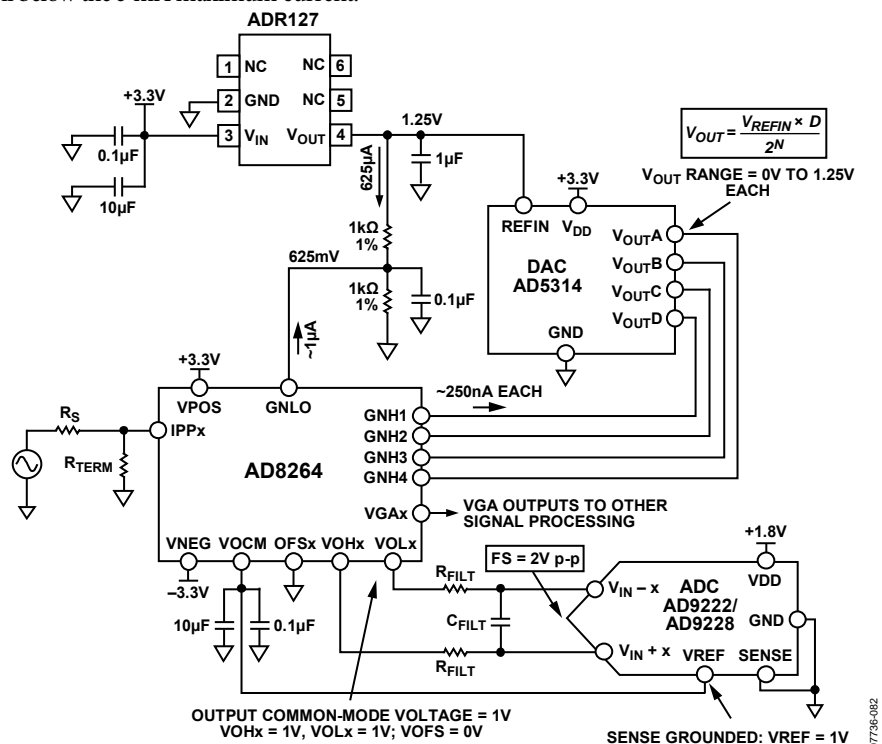
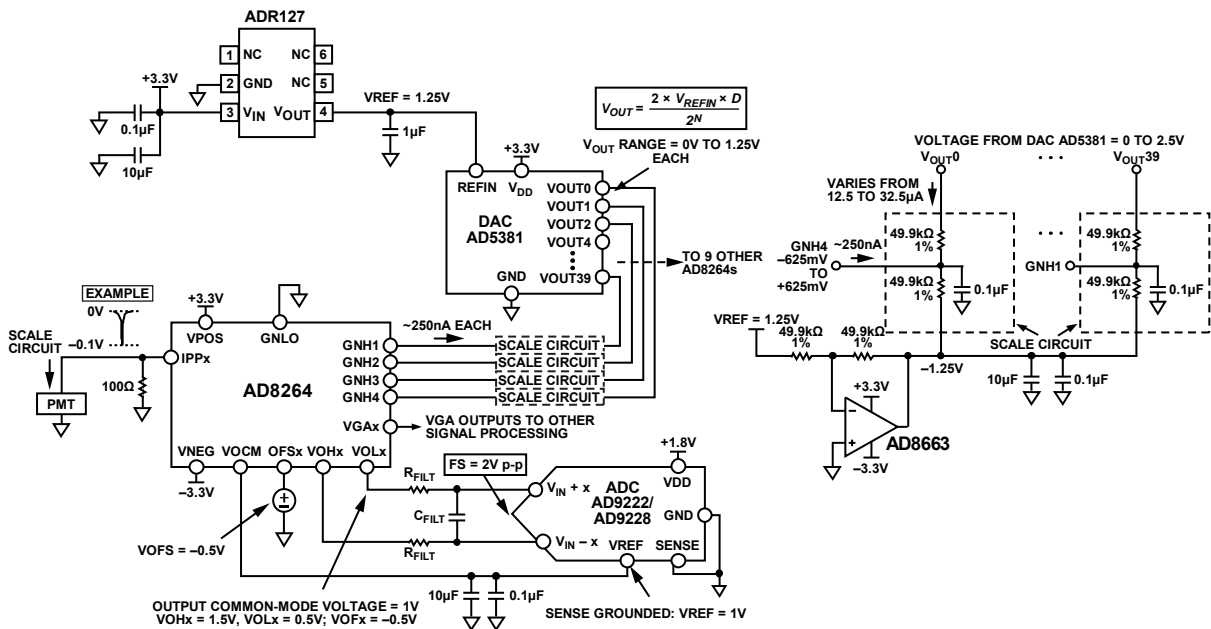

Figure 112. Application Concept of the AD8264 with the AD5314 10-Bit DAC and the AD9222/AD9228 12-Bit ADC
Figure 113. Concept Application of AD8264 with 40-Channel AD5381 12-Bit, 3 V DAC and AD9222/AD9228 12-Bit ADC
The AD8264 is particularly well suited for use in the analog front end of medical PET imaging systems. Figure 112 shows how to use the AD8264 with the AD5314 (a 4-channel, 10-bit DAC) and the AD9222/AD9228 (an octal or quad, 12-bit ADC, respectively). The DAC sets the gain of the AD8264. Note that the full gain span of 24 dB is achieved with this setup because the gain control input range of the AD8264 is very close to 1.25 V. The GNLO pin must offset by $1.25/2 = 625$ mV because the gain control input is bipolar around the voltage applied at GNLO. This is done with two 1 k Ω , 1% resistors. The approximately 1 μ A of bias current flowing from the GNLO pin does not contribute a significant error because the basic gain error of the AD8264 is the limiting factor.
Figure 112 also includes the DAC output equation, which indicates that the output can vary between 0 V and $V_{REF} = 1.25$ V.
The single-ended-to-differential amplifier of the AD8264 amplifies the VGA output signal by 6 dB and can provide the required dc bias of the AD9222/AD9228, as shown in Figure 112. The ADC is connected with the default internal reference because the SENSE pin is grounded. With this connection, the AD9222/AD9228 VREF pin is an output that provides 1 V; this is then connected to the VOXM input of the AD8264, which sets the output common-mode voltage of the VOHx and VOLx pins to 1 V. This voltage is very close to the recommended optimal value of $V_{DD}/2 = 0.9$ V. With this configuration, the ADC inputs are set to a full-scale (FS) of 2 V p-p.
The dc connected concept example in Figure 113 is an application with the 40-channel AD5381, 3 V, 12-bit DAC. The main difference between this example and Figure 112 is that, for the same ADR127 1.25 V reference, the full-scale output of the DAC is from 0 V to $2 \times V_{REFIN} = 2.5$ V. Two options for gain control include the following:
- Use the same circuit as in Figure 112 but use only half the DAC output voltage from 0 V to 1.25 V. This is the simplest solution, requiring the fewest extra components. Note that the overall gain resolution increases by one bit to 11 bits over the 10-bit AD5314.
- Ground GNLO and scale the DAC output so that the GNHx inputs vary from -0.652 V to $+0.625$ V. Figure 113 shows a possible circuit implementation using a divider between the DAC output and a -1.25 V reference.
Figure 113 shows how the AD8264 is connected in a PET application. The PMT generates a negative-going current pulse that results in a voltage pulse at the preamplifier input and a differential output pulse on VOLx and VOHx.
A convenient method of verifying and customizing the signal chains shown in Figure 112 and Figure 113 is by ordering the corresponding evaluation boards available on www.analog.com. The AD8264-EVALZ is a platform through which the user can quickly become familiar with the features and performance capabilities of the AD8264. See the Evaluation Board section for more information.